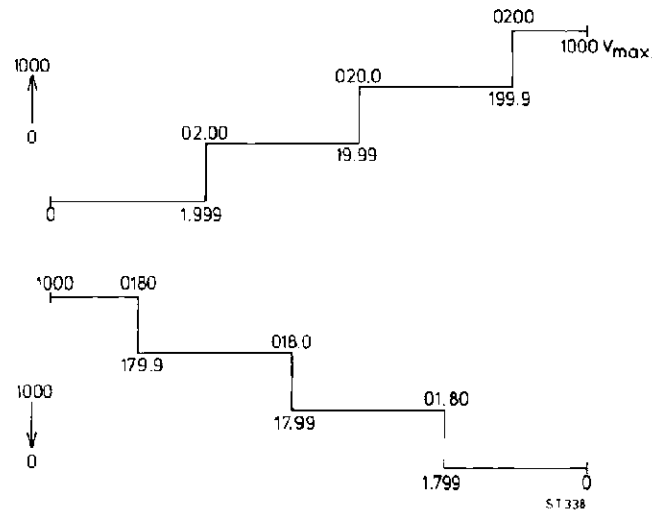

Fig. 31. Checking the automatic range selector
- Check the range selection in accordance with Fig. 31.